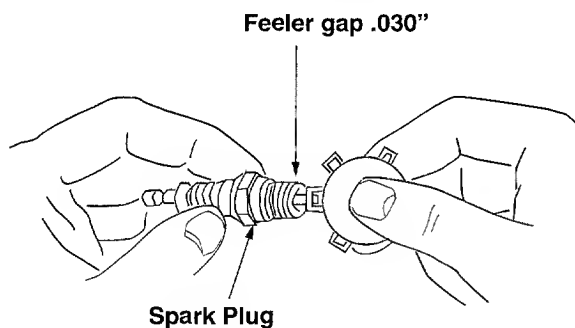

Figure 10
- Clean spark plug and reset gap to .030" at least once a season or every 50 hours of operation. See Figure 10. Spark plug replacement is recommended at the start of each season. Refer to engine parts list for correct spark plug type.